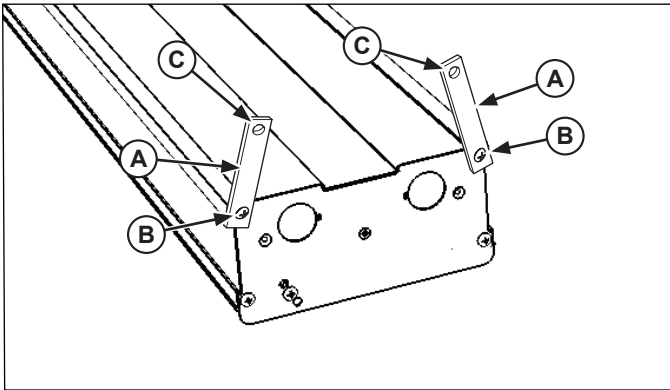

Figure 4. Chain Mount Installation.
1. The unit is shipped with mounting tabs (A) located on each end of the unit. For units that are longer than 72", three (3) mounting points consisting of the two ends and the center of the unit must be used. See Figure 4.
2. Loosen the screws (B) holding the mounting tabs in place but do not remove. Rotate tabs (A) to an upright position and attach chain to holes (C). The chain must support each side of each end of the unit evenly.
5. Tighten screws (B) to secure the mounting tabs.